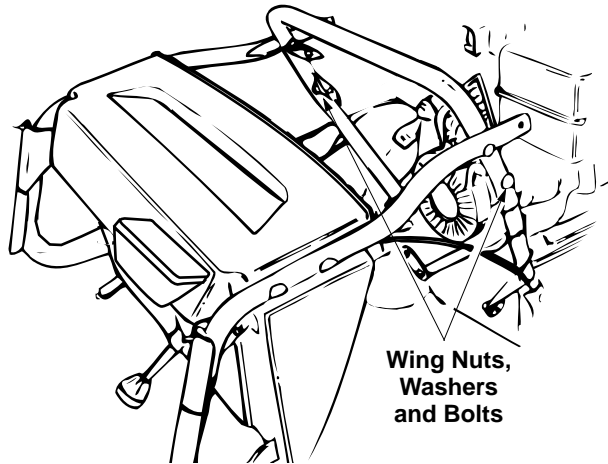
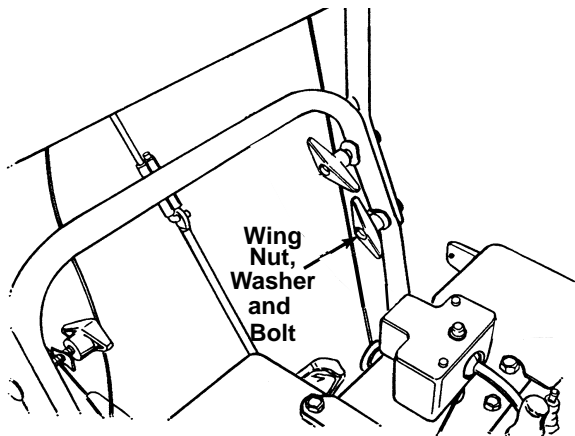

Figure 3
Figure 4
5. Remove the **lower** two plastic wing nuts, cupped washers and carriage bolts from each side of the lower handle. See Figure 3.
7. Raise the upper handle assembly until it locks over the lower handle. See Figure 3 and Figure 4.
8. Secure the upper handle and lower handle with the two plastic wing nuts, cupped washers and carriage bolts previously removed. See Figure 4.